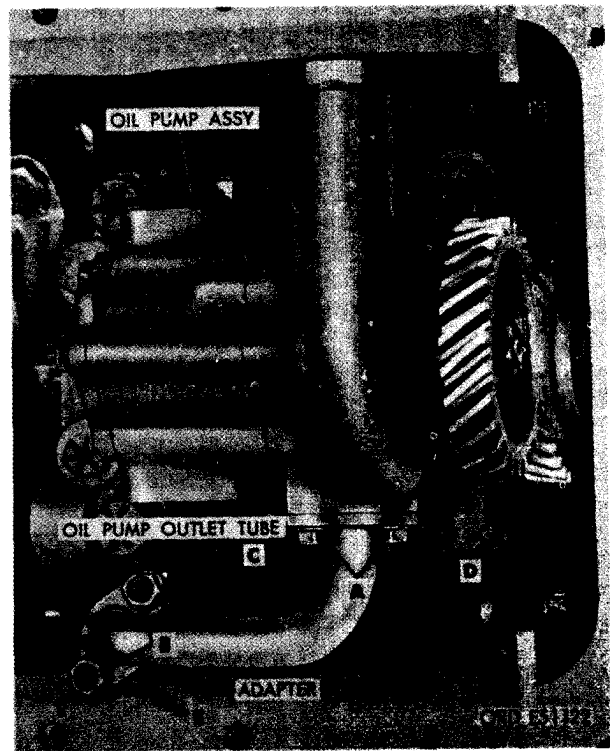

FIGURE 280. REMOVING OR INSTALLING OIL PUMP OUTLET TUBE.
- (3) Figure 280. (A) Remove two 1/4 x 7/8 cap screws and 1/4-inch lock washers securing oil pump outlet tube to pressure oil pump. (B) Remove two 5/16 x 7/8 cap screws and 5/16-inch lock washers securing oil pump outlet tube to crankcase. (C) Remove oil pump outlet tube and adapter. (D) Remove and discard outlet tube and gasket. (E) Remove and discard 3/4 id x 3/32 thk preformed packing from tube.